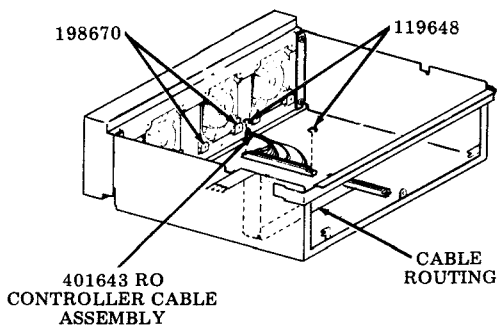

Fig. 59
Step 3 — Install 401643 controller cable to bottom of module using two 119648 retaining rings. Install cable bracket to ventilation assembly with two 198670 screws. Route cables as shown (Fig. 59).